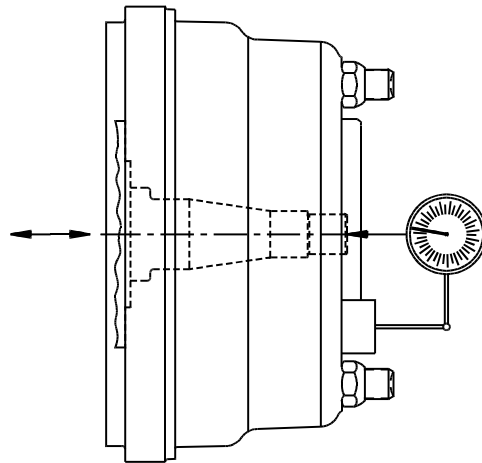

Figure 10 - Wheel End Play Measurement
5. Place the tip of the dial indicator on the center of the steering knuckle spindle. Set the dial indicator on zero. (**Figure 10**).